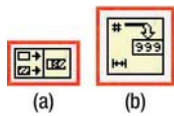

Figure 10-12. (a) The Concatenate String Function, and (b) the Number to Decimal String Function
- *Concatenate String*—This function is used to combine two or more strings (see Figure 10-12(a)).
- **Number to Decimal String**—This function converts a numerical value to a string value (see Figure 10-12(b)).